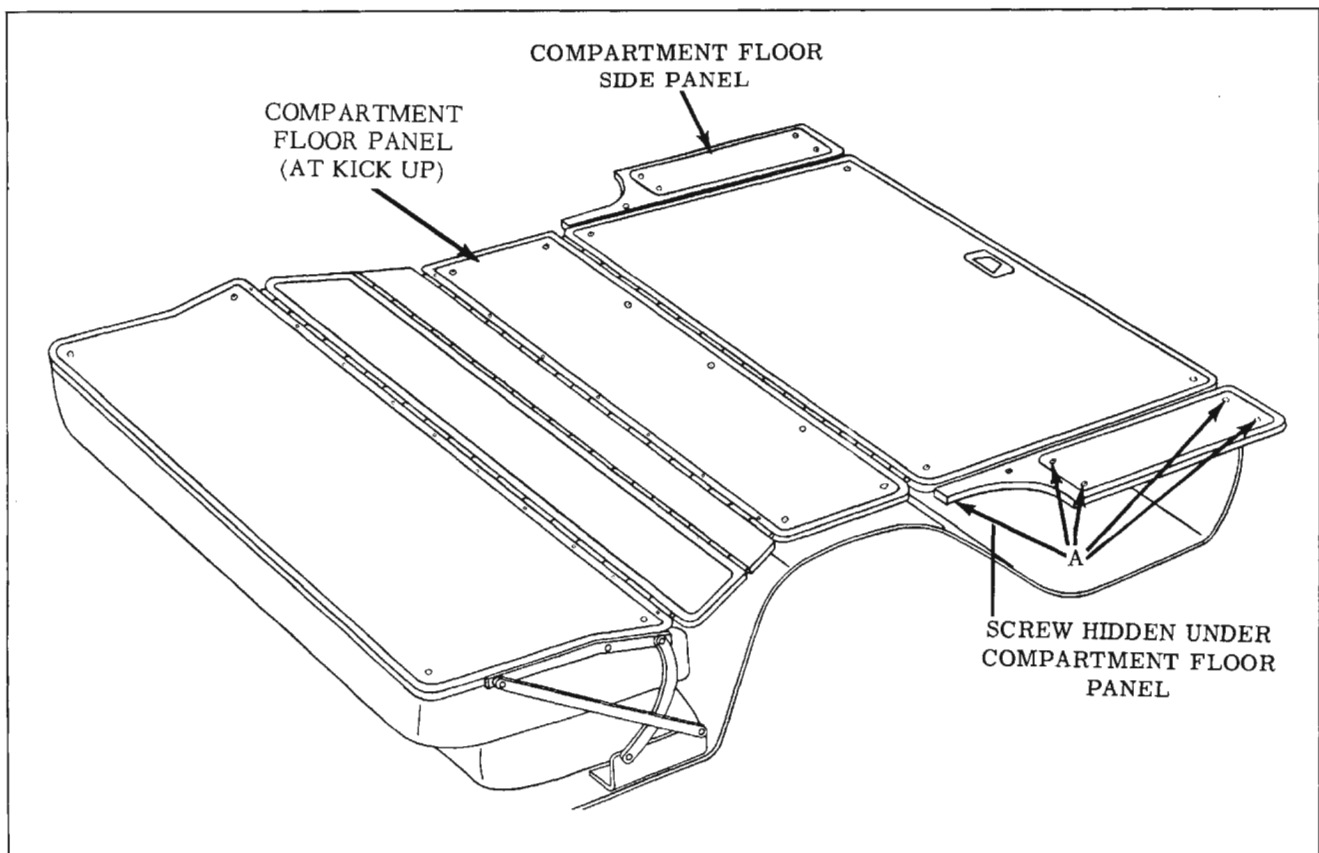

Fig. 16-325 Compartment Floor Side Panel Assembly
- Remove screws securing compartment floor side panel to side panel support as shown at "A", Fig. 16-325, and remove panel assembly from body.